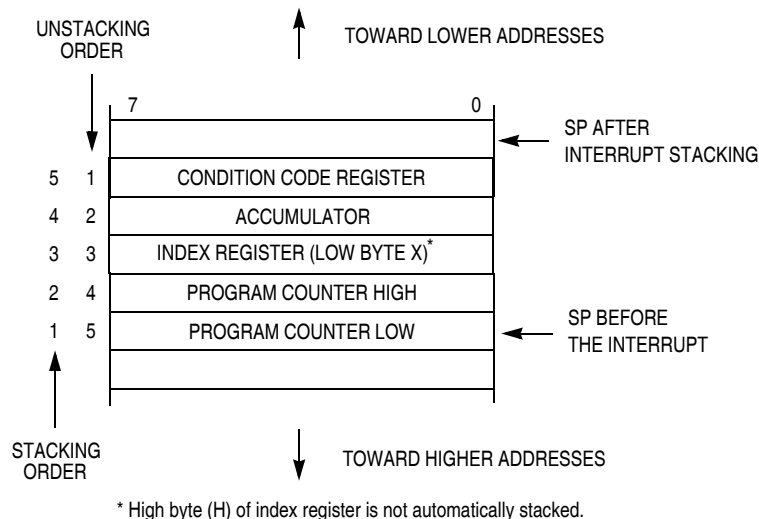

Figure 5-1. Interrupt Stack Frame
Figure 5-1 shows the contents and organization of a stack frame. Before the interrupt, the stack pointer (SP) points at the next available byte location on the stack. The current values of CPU registers are stored on the stack starting with the low-order byte of the program counter (PCL) and ending with the CCR. After stacking, the SP points at the next available location on the stack. This address is one less than the address where the CCR was saved. The PC value that is stacked is the address of the instruction in the main program that would have executed next if the interrupt had not occurred.